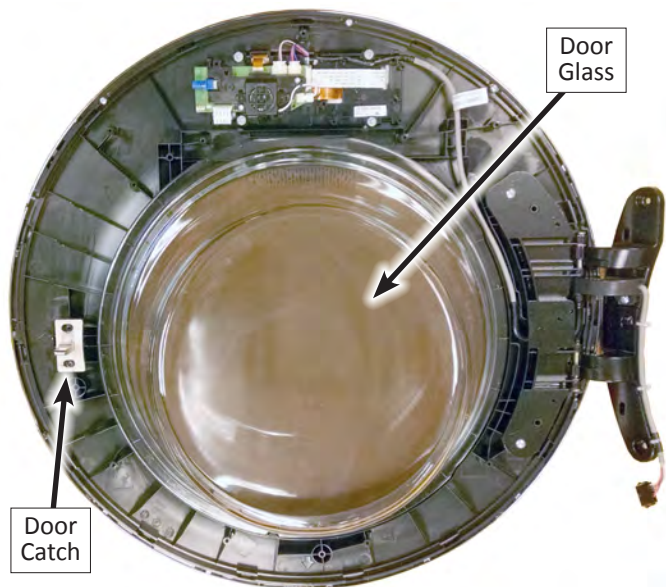

Figure 4
6. Remove the inner door glass and catch. Set aside for reinstallation to the new Outer Door/HMI Assembly (see Figure 4).